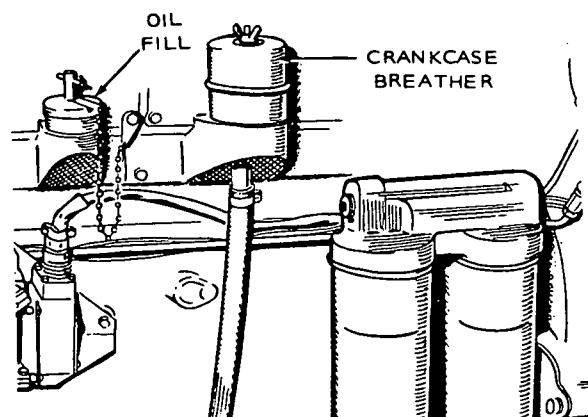

FIGURE 29. CRANKCASE BREATHER FILTER
1. Remove wing nut, flat-washer and rubber washer holding cover, lift cover and remove (see Figure 29).